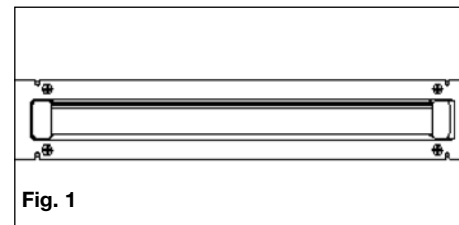

Fig. 1
- Remove the front plate of the step. (Fig. 1)